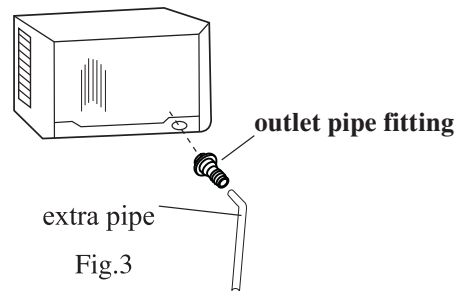

Fig.3
5. Plug the outlet pipe fitting of the enclosed accessories (with seal ring) into the drain hole on the vertical wall at the back of the bottom plate (see Fig. 3)